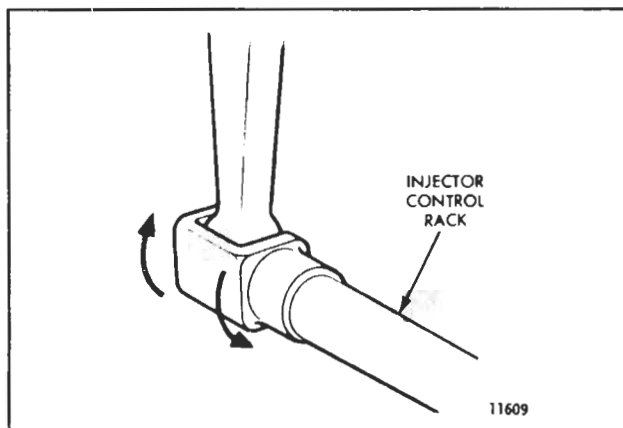
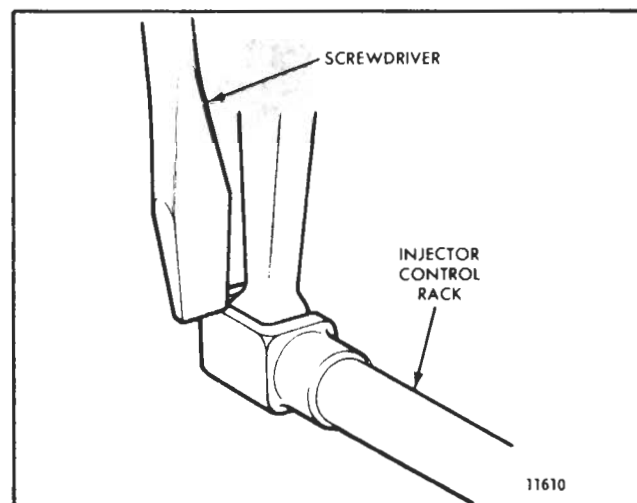

Fig. 3 - Checking Rotating Movement of Injector Control Rack
Fig. 4 - Checking Injector Control Rack "Spring"
7. To be sure of the proper rack adjustment, hold the speed control lever in the maximum speed position and press down on the injector rack with a screw driver or finger tip and note the "rotating" movement of the injector control rack (Fig. 3). Hold the speed control lever in the maximum speed position and, using a screw driver, press downward on the injector control rack. The rack should tilt downward (Fig. 4) and when the pressure of the screw driver is released, the control rack should "spring" back upward.